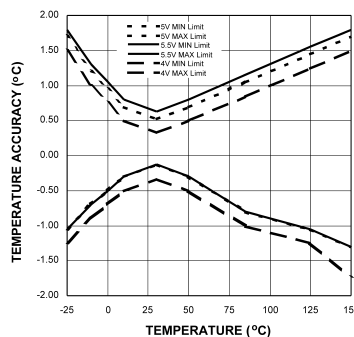
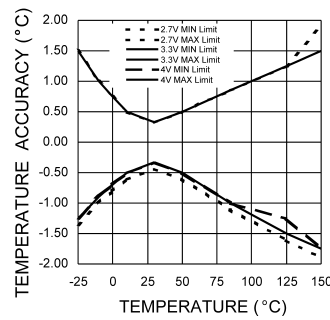

Figure 2. Accuracy vs Temperature with $+V_S = 5V$
Figure 3. Accuracy vs Temperature with +V_S = 3.3V
- (1) Typical values are at $T_A = 25^\circ C$ and represent most likely parametric norm.
- (2) Limits are guaranteed to TI's AOQL (Average Outgoing Quality Level).
- (3) The limits found in Table 1 supersede the limits shown in the Electrical Characteristics Table. The Accuracy specification includes errors due to linearity, offset and gain. The accuracy specification includes effects of self heating with negligible digital output loading. Pull-up resistors should be maximized (10k typical recommended), so that self heating due to digital output loading is negligible.
- (4) Limits at intermediate temperatures can be calculated using a straight line interpolation as shown in Figure 2 and Figure 3.
- (5) Linearity Error is defined as the worse case difference of an actual reading to that of a calculated reading derived from the straight line whose endpoints are measured at $30^\circ C$ and $125^\circ C$ for the range of $30^\circ C$ to $125^\circ C$ or whose endpoints are measured at $30^\circ C$ and $-25^\circ C$ for the range of $30^\circ C$ to $-25^\circ C$.
- (6) Offset Error calibration should be done at $30^\circ C$. The residual error of the transfer function is then equivalent to the Accuracy Limit minus the Offset Limit. This does not take into account the power supply sensitivity of the offset error. Nor, does it take into account the error introduced by the calibration system used.
- (7) This specification is provided only to indicate how often temperature data is updated. The LM92 can be read at any time without regard to conversion state (and will yield last conversion result). If a conversion is in process it will be interrupted and restarted after the end of the read.
- (8) 12 bits + sign, two's complement
- (9) Default values set at power up.